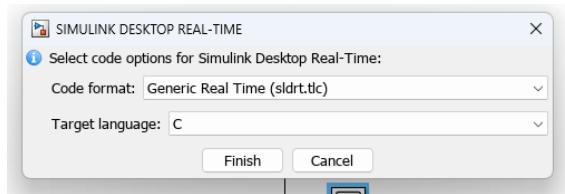
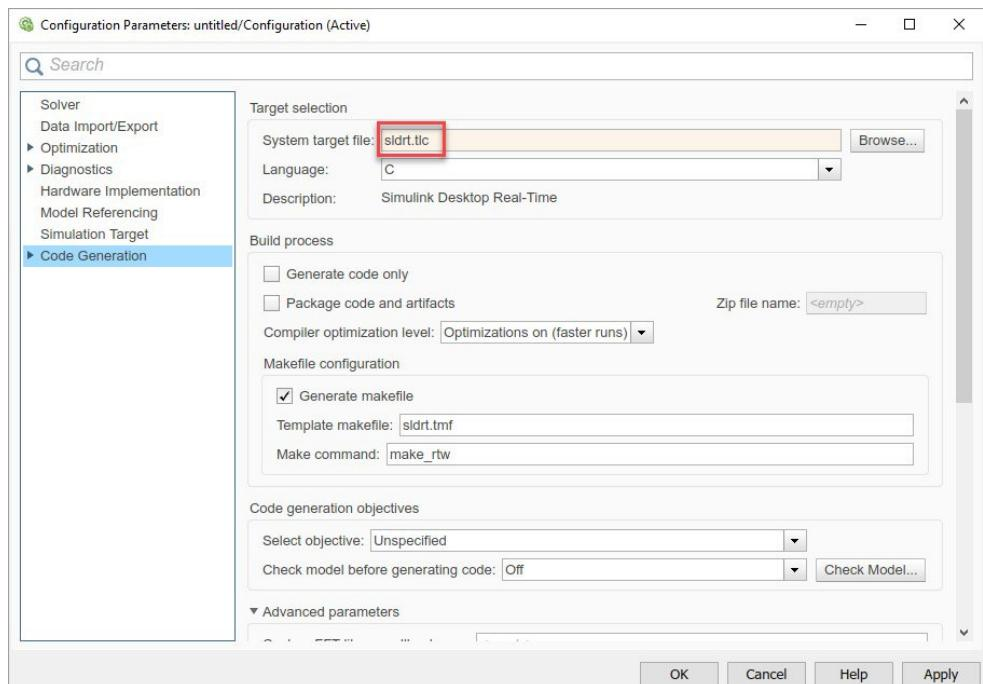

Figure 14 – Desktop Real-Time Setup
Figure 16 – Model Configuration Parameters
- Note: If when setting up the desktop real-time environment you got a window as shown in Figure 14, ensure that the code format is set to be `sldrt.tlc`, as shown below:
21. From **Code Generation**, if a window appeared when setting up the desktop real-time environment (see Figure 14), ensure that the system target file is set to the system target file to **sldrt.tlc** and set it to that if it is not (see Figure 16).